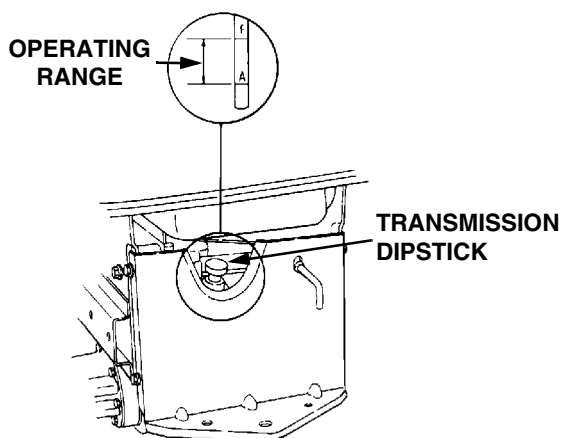

Figure 20
Check the oil level of the transmission case before each use to see that it is filled to the correct level. Before checking the transmission oil level, clean the area around the oil fill plug/dipstick to prevent debris from entering the transmission case. Always keep the oil level between the “FULL” and the “ADD” marks on the dipstick (See Figure 20). When checking the oil level, the dipstick must be withdrawn and wiped clean, then inserted all the way before being withdrawn for a true reading.
3. Remove the oil fill plug/dipstick from the oil fill port and SLOWLY pour oil into the oil fill port. Fill the transmission case until the oil level reaches the “FULL” mark on the dipstick (Refer to Figure 20).
6. Remove the oil fill plug/dipstick from the oil fill port and SLOWLY pour oil into the oil fill port. Fill the transmission case until the oil level reaches the "FULL" mark on the dipstick (Refer to Figure 20).